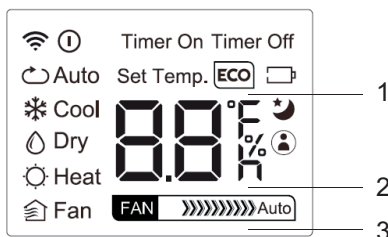

fig. 6 -
1. **ECO mode** (part. 1 "fig. 6 -") (the indoor unit displays shows the "E-C-O" letters one by one, followed by the temperature setpoint). The "energy saving" mode is only available in COOL mode by pressing the "ECO" button. If the temperature setpoint is lower than 24°C, by activating the "ECO" mode the temperature setpoint is automatically set to 24°C and fan speed to "Auto" to save energy. If the temperature setpoint is higher than 24°C, by activating the "ECO" mode the temperature setpoint does not change and fan speed is set to "Auto". To stop the "ECO" mode, either press the "ECO" button, or choose another operation mode, or choose a temperature setpoint lower than 24°C
2. **SLEEP function** (part.2 "fig. 6 -"). Pressing the "SLEEP" button to preset the machine in night mode. The SLEEP mode is indicated by the symbol on the display. The set point temperature will be increased (in cooling operation "COOL") or decreases (in hot operation "HEAT") 1 ° C at predetermined intervals to a maximum of 2 ° C. SLEEP function stops automatically after 8 hours and the unit will continue operation by keeping the last setpoint. The function is not available in "FAN" and "DRY" modes.
3. **FOLLOW ME function** (part.3 "fig. 6 -"). Activated in HEAT - AUTO - COOL mode operation. The remote control will send this signal to the air conditioner every 3 minutes interval until press the Follow Me button again. The air conditioner will cancel the Follow Me feature automatically if it does not receive the signal during any 7 minute interval.